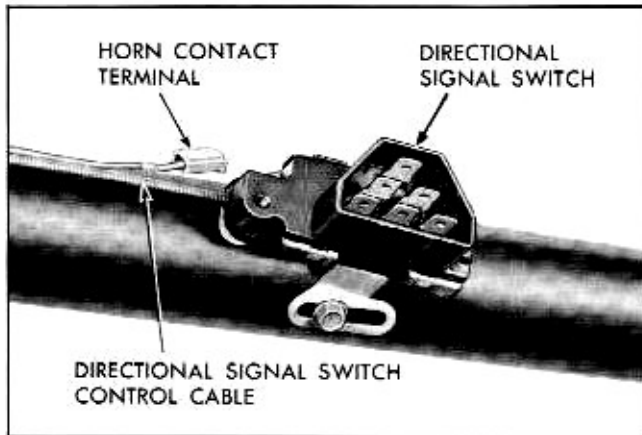

Fig. 9-10 Directional Signal Switch Assembly
3. Remove steering column jacket directional signal switch from jacket (Fig. 9-10).
4. Disconnect directional signal switch control cable from switch and disconnect horn contact terminal (Figs. 9-10 and 9-11).